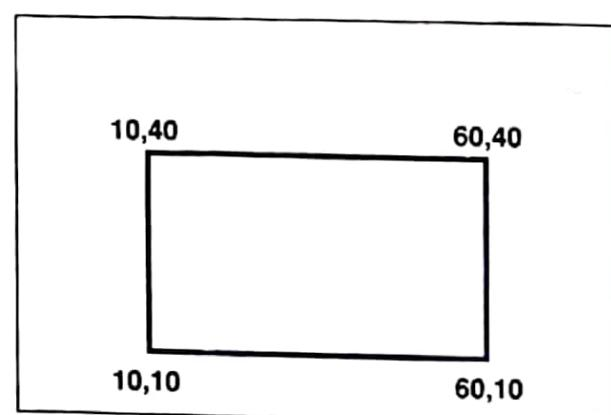

Fig. 19.8 Use of absolute mode
- (vi) Type C, enter. See Fig. 19.8